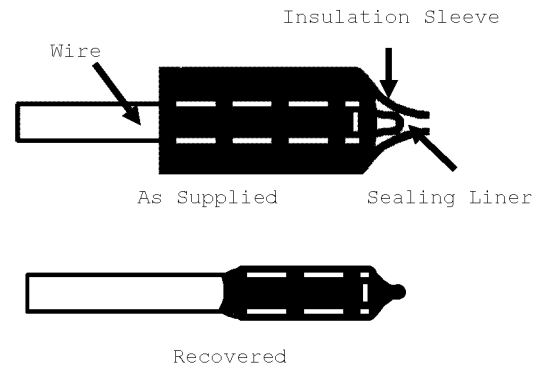

Figure 10. Typical Heat Shrinkable End Caps
15. **Heat Shrinkable Sealing End Caps.** Select correct sealing cap Table 4. Cut wire square and place end cap on wire so it bottoms in sealing liner. There is no need to strip wire insulation. Shrink using approved heat gun (Figure 10) using approved heat gun (WP 012 00).